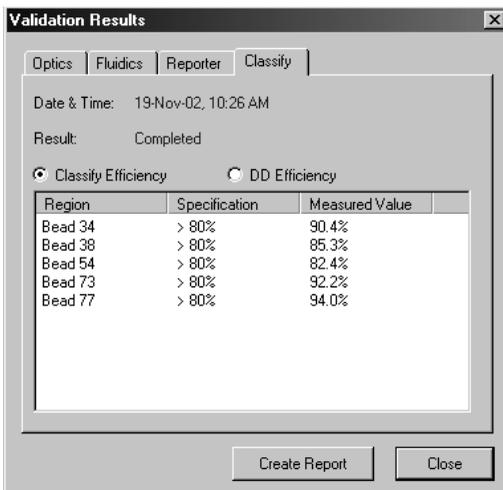

Fig. 11. Classify validation results.
8. When the procedure has been completed, results will appear in a dialog box as shown in Figure 11: